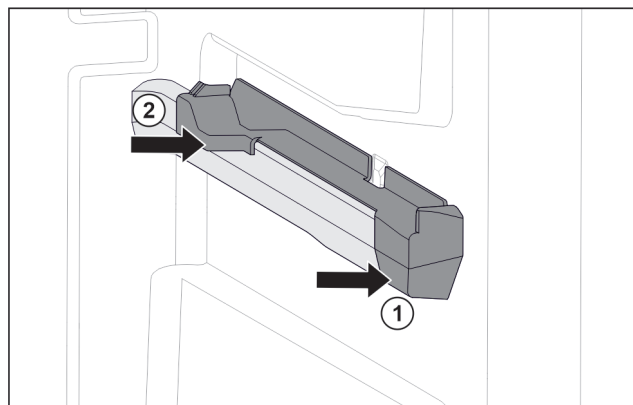

Fig. 81 Attachment on the right moulded rib
- Position attachment on moulded rib at the front. Fig. 81 (1)
- Press on attachment at the back. Fig. 81 (2)